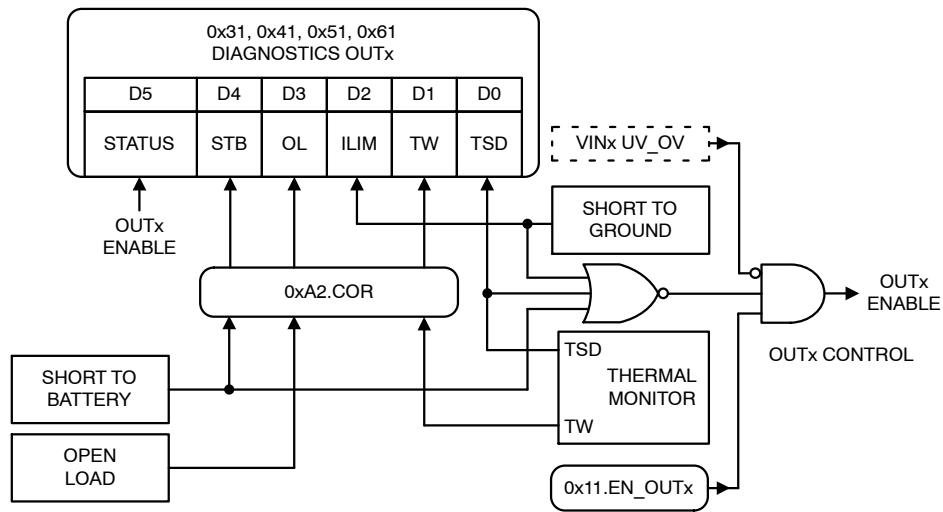

Figure 12. Per-channel Diagnostics Mapping and COR Configuration
Figure 12 shows the basic register structure and output control topology. Latched driver output fault types – current limit (ILIM) and thermal shutdown (TSD) – are those that disable and latch the affected outputs off after a delay time (configurable for ILIM via the 0x12.LATCH_X bits) when a fault is detected and latch the event into the register’s respective fault status bit. Non-latched driver output fault types – short to battery (STB), open load (OL), and thermal warning (TW) – are those that may temporarily disable the affected outputs while a fault is present then re-enable it automatically when the fault resolves.